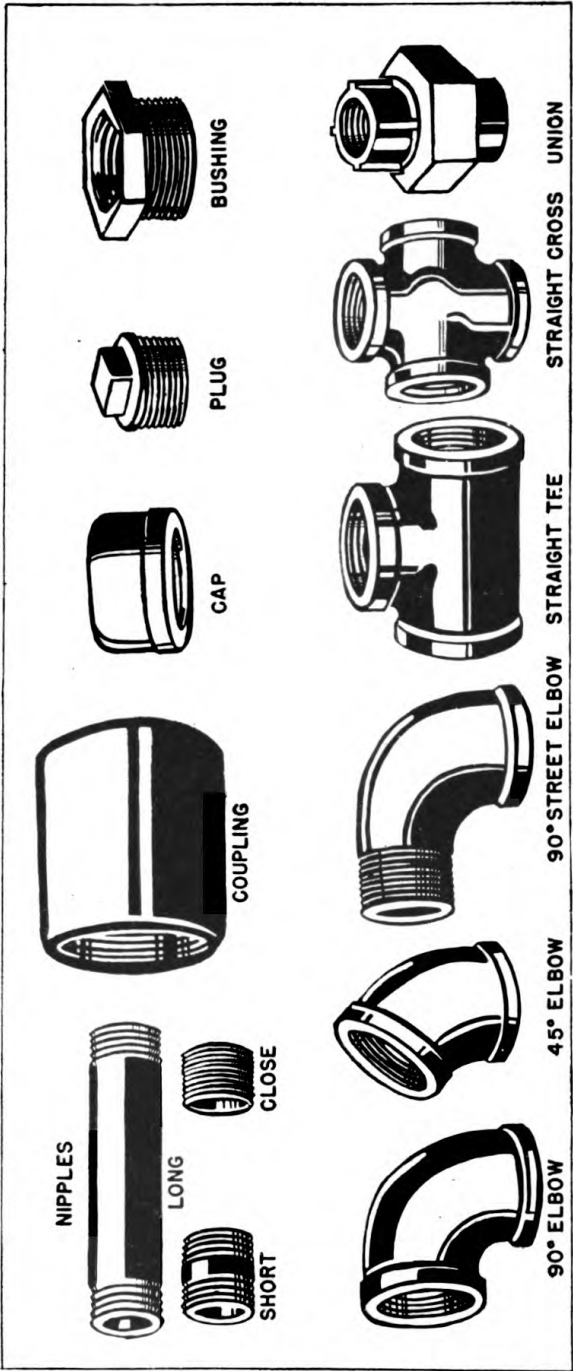
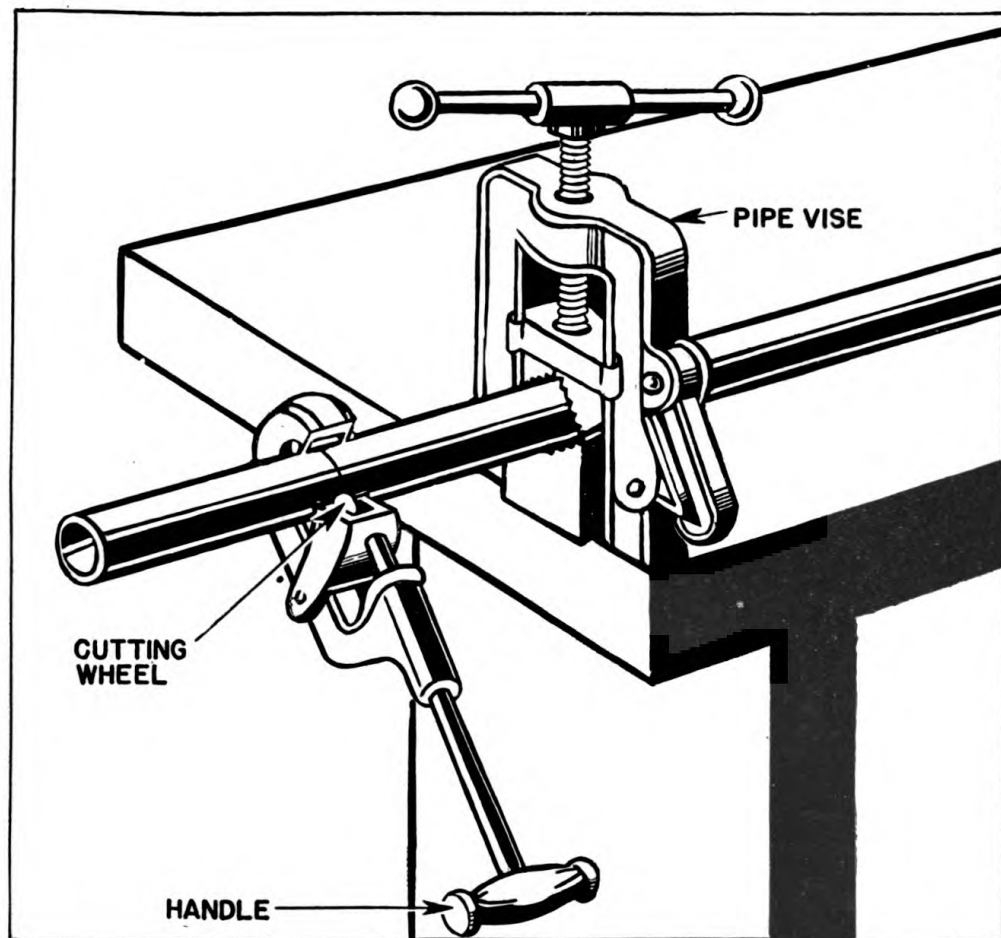

FIGURE 65.—Types of pipe fittings.
FIGURE 66.—Pipe cutter.
20. Cutting and threading pipe.—*a. General.*—The automotive mechanic is often called on to cut, thread, and fit together various lengths of pipe, and should have some familiarity with the commonly used pipe fittings shown in figure 65. Pipe can be cut with a hack-saw, but if a pipe cutter (fig. 66) is available, it is more satisfactory and should be used.